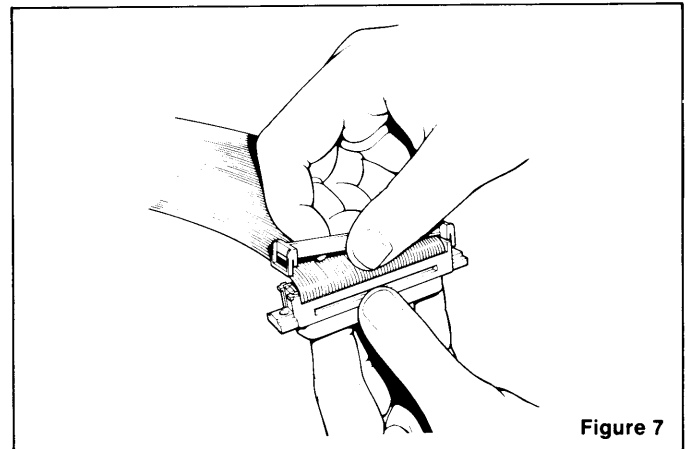

Figure 7
2. Engage one end of strain relief over connector body flange. (Figure 7)